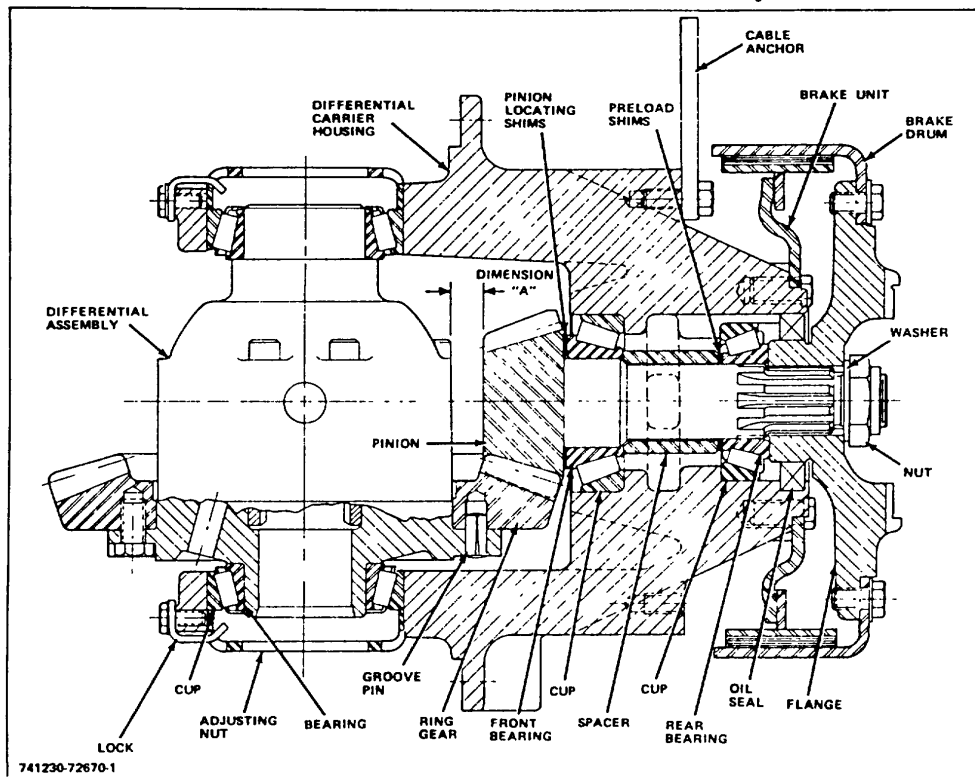

Figure 3-6. Differential Carrier Assembly
**NOTE: With the tool installed in place of the pinion gear and without any pinion locating shims, dimension "A" as shown in Figure 3-6 would be .618". However, if an exact pinion was installed with .035" thickness of pinion locating shims installed, dimension "A" would be .583".**